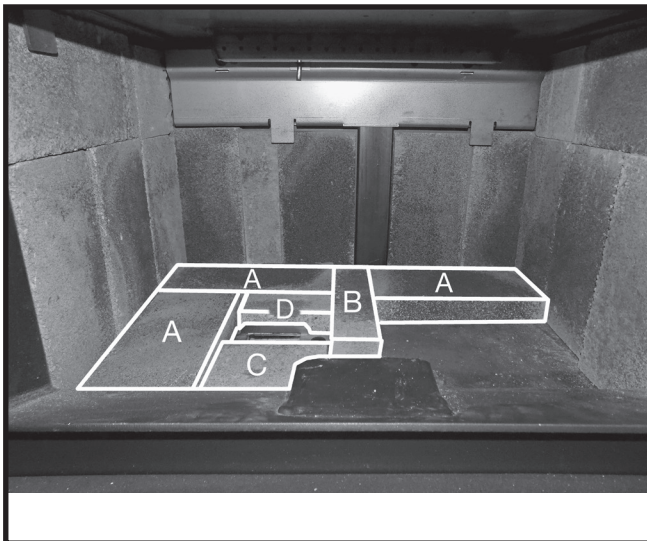

Figure 21: C brick in front of ash dump.
8. Place a "C" brick on the firebox floor in front of the ash dump and up against the "A" brick located on the left side of the firebox floor (Figure 21).